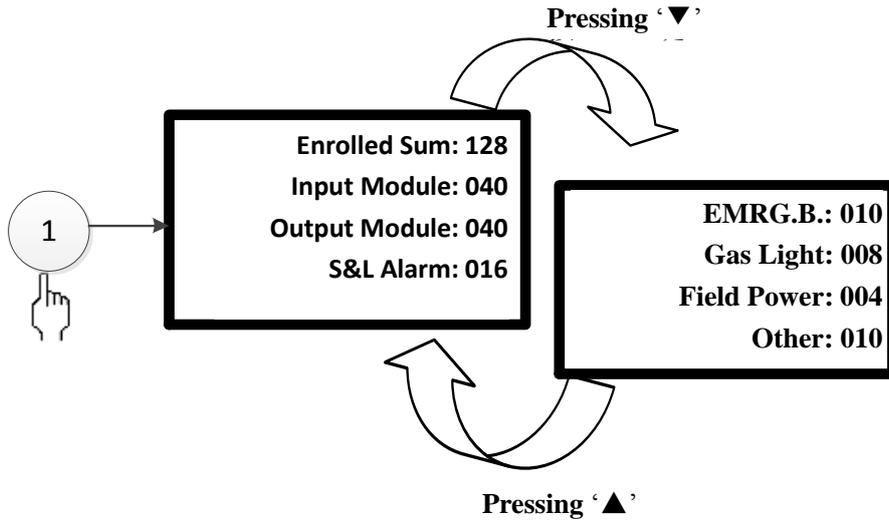

Fig. 3-12
① Login Info
Enter the screen as shown in Fig. 3-12 by pressing number 1 or moving cursor to select ①. Quantities for all kinds of connected devices can be browsed.